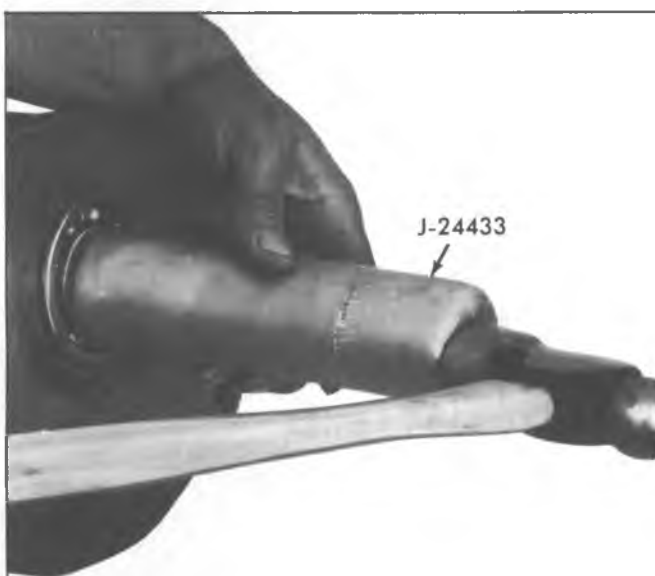

Fig. 22R--Installing Front Bearing
24. Install front bearing on clutch gear shaft by hand drive bearing on clutch gear shaft using tool J-24433 (fig. 22R).